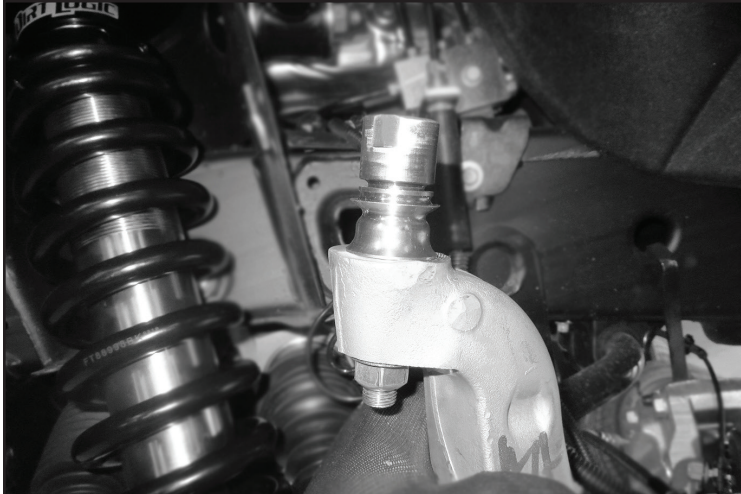

FIGURE 5 - STEP 9
- Install FT90153 (Lower misalignment) onto FT94535 (Uniball Pin). Then, install into the factory knuckle using the supplied 9/16-18 (Fine thread nut) and washer. Torque the nut to 135 ft-lbs. **SEE FIGURE 5**